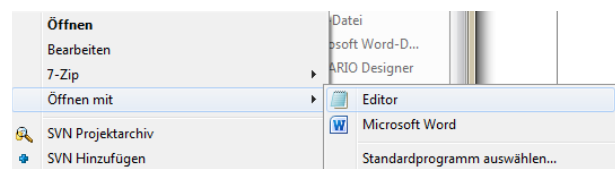

Fig. 3-18
- Open and edit the text file with a text editor. (Fig. 3-18)